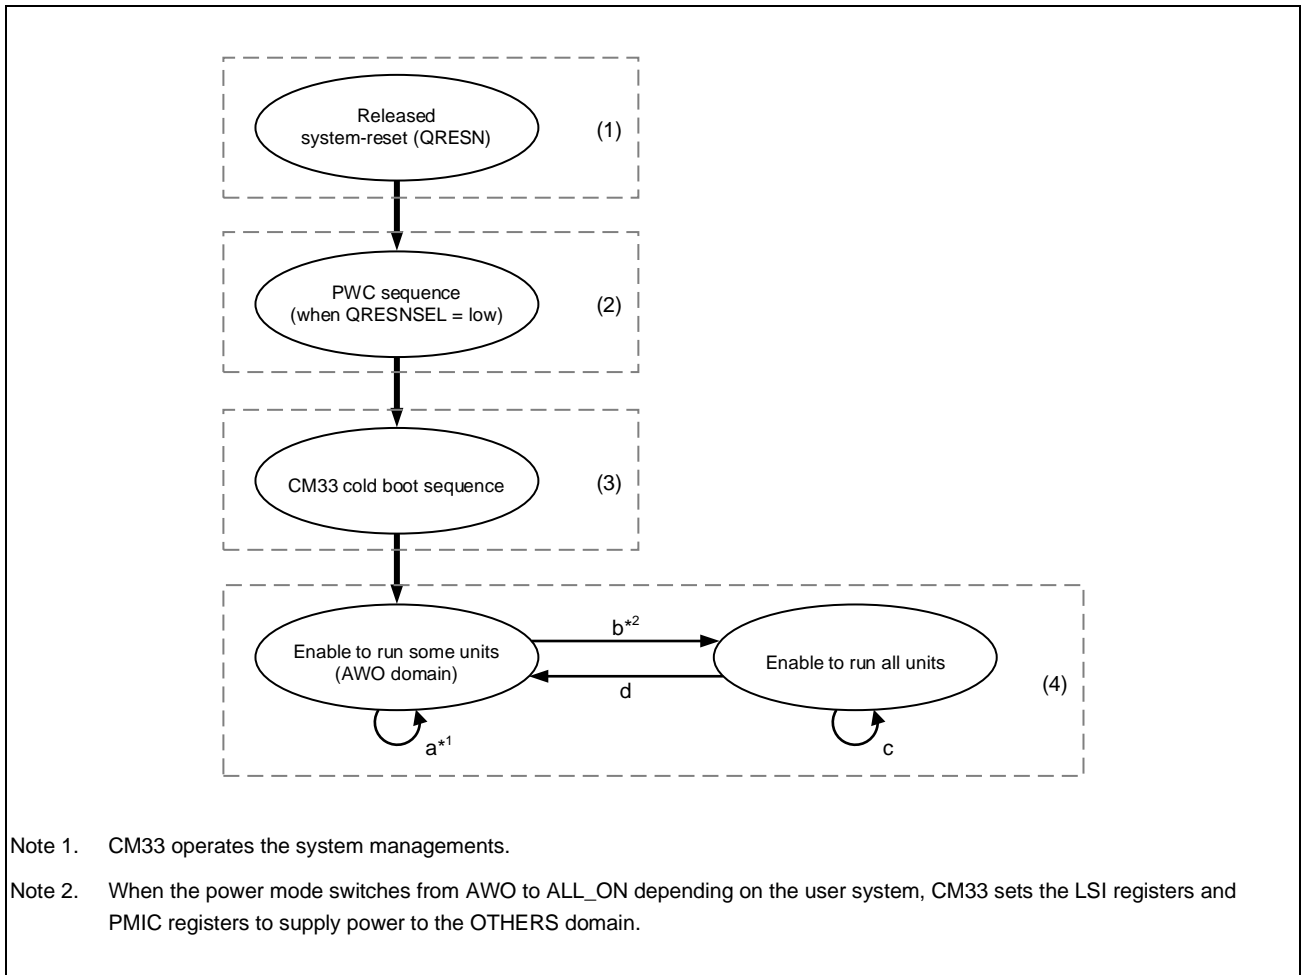
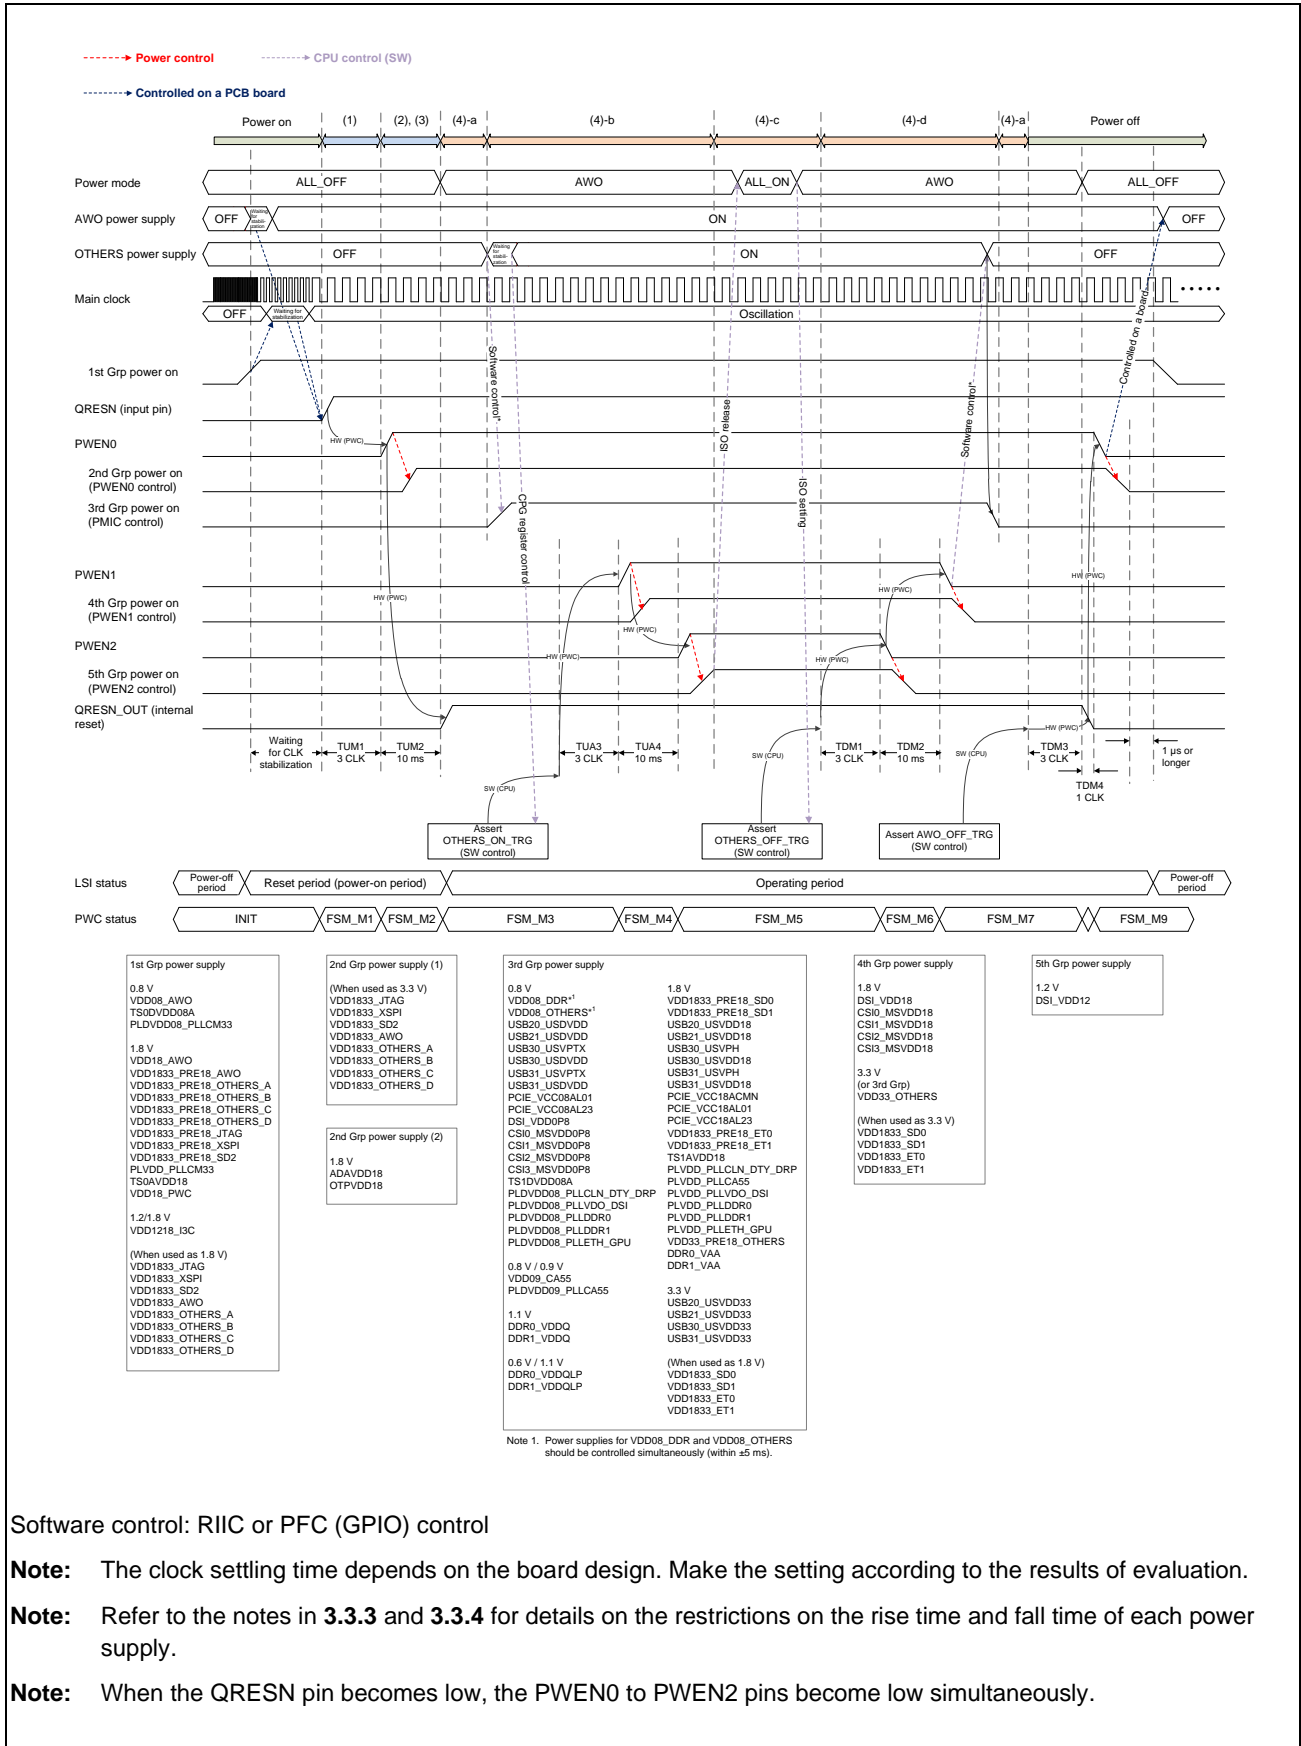

Figure 3.3-1 CM33 Boot State Diagram
Figure 3.3-2 Power-On/Power-Off Sequence (CM33 Boot)
The state diagram of CM33 cold boot is shown in **Figure 3.3-1**. The boot mode states (1) to (4) refer to the sequence of (1) to (4) in **Figure 3.3-2**.